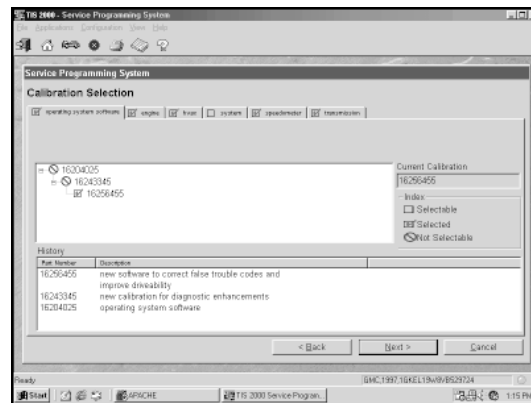

Figure I-35, VCM Calibration File Selection
12. A Calibration Selection screen will appear showing the calibration to be used (Figure I-35). Make a calibration selection, if necessary. When all calibrations are selected, a green check mark will appear on each folder tab. Select Next.